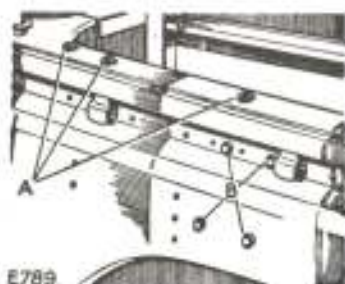

Fig. 136 Holes for angle framework and aerial bracket
- (10) Remove the six nuts and bolts or grommets from the holes in the side cappings of the vehicle, adjacent to the table top, for the slotted angle framework. Fig. 136.
- (11) Fit the slotted angle framework. Secure the table top earth braid by the rear bolt of the forward stay. The braid locates on the top of a shake-proof washer. Ensure that the earth connections are clean and tight.
- (12) Remove the four nuts and bolts or grommets from the holes (Fig. 136 (B)) in the two side plates for the aerial mounting bracket. Left-hand side for one HF set.
- (13) Fit the aerial mounting bracket/s.
- (14) Locate the aerial base mounting in the boss on the bracket and secure by the captive screw. Use a tommy bar to tighten the screw.